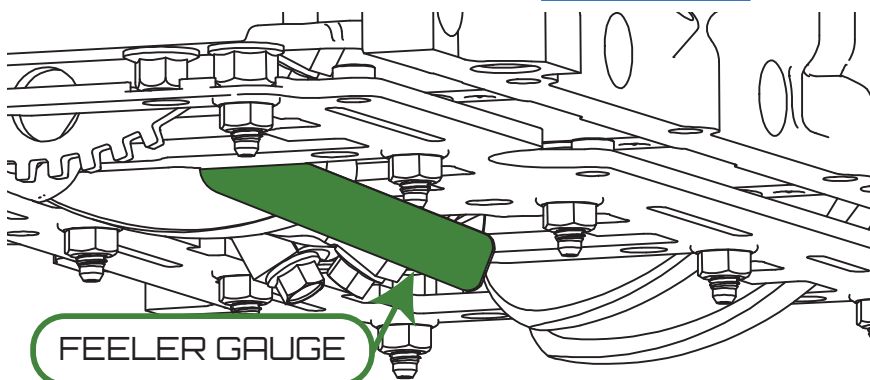

Figure 7 - Inspecting Clearance with a Feeler Gauge
- Use a feeler gauge set, shown in Figure 7, to carefully measure the gap between the scraper and the rotating assembly in-as-many positions as possible. Please be thorough!